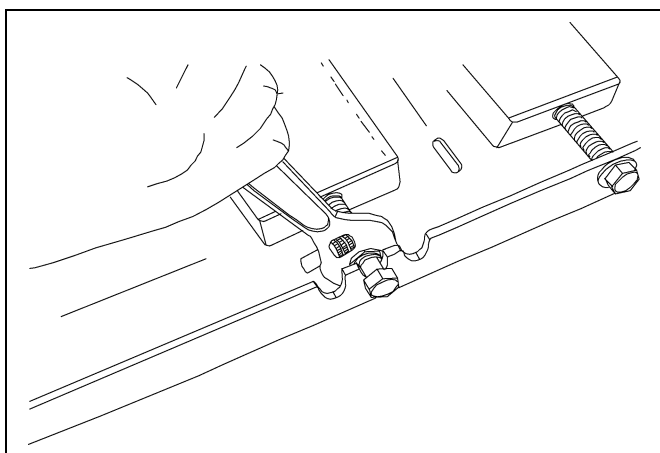
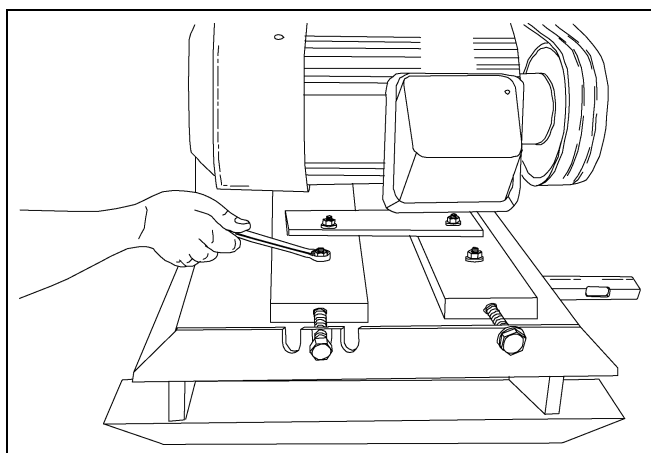

Figure 7F
Figure 7G
6. Keeping the motor in proper alignment is necessary and can be accomplished by using an open end wrench to turn the nut on the opposite motor mount channel, moving the channel either direction until proper alignment is achieved. Squaring up the motor can change the tension of the belts. Re-check alignment and tension. Finish Step 4 by tightening the four (4) 1/2" bolts left loose earlier. (See Figure 7F and Figure 7G.)